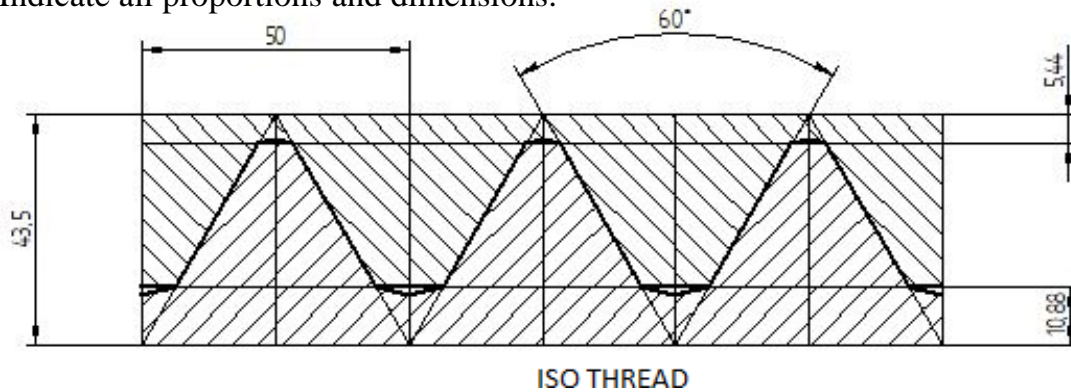

**Fig. 4.7** Shaft support
**Exercise 2:** Figure 4.7 shows the isometric view of a shaft support. Sectional view from the front, the view from above and the view from the right are also shown in the figure